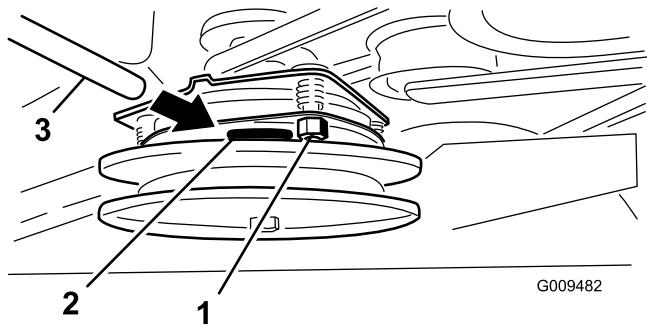

Figure 60
2. If adjustment is needed, then set at .015 inches (0.381 mm) for each of the three adjustment slot positions. Tighten the lock nuts until there is slight binding on the feeler gauge but it can be moved easily within the air gap (Figure 60).